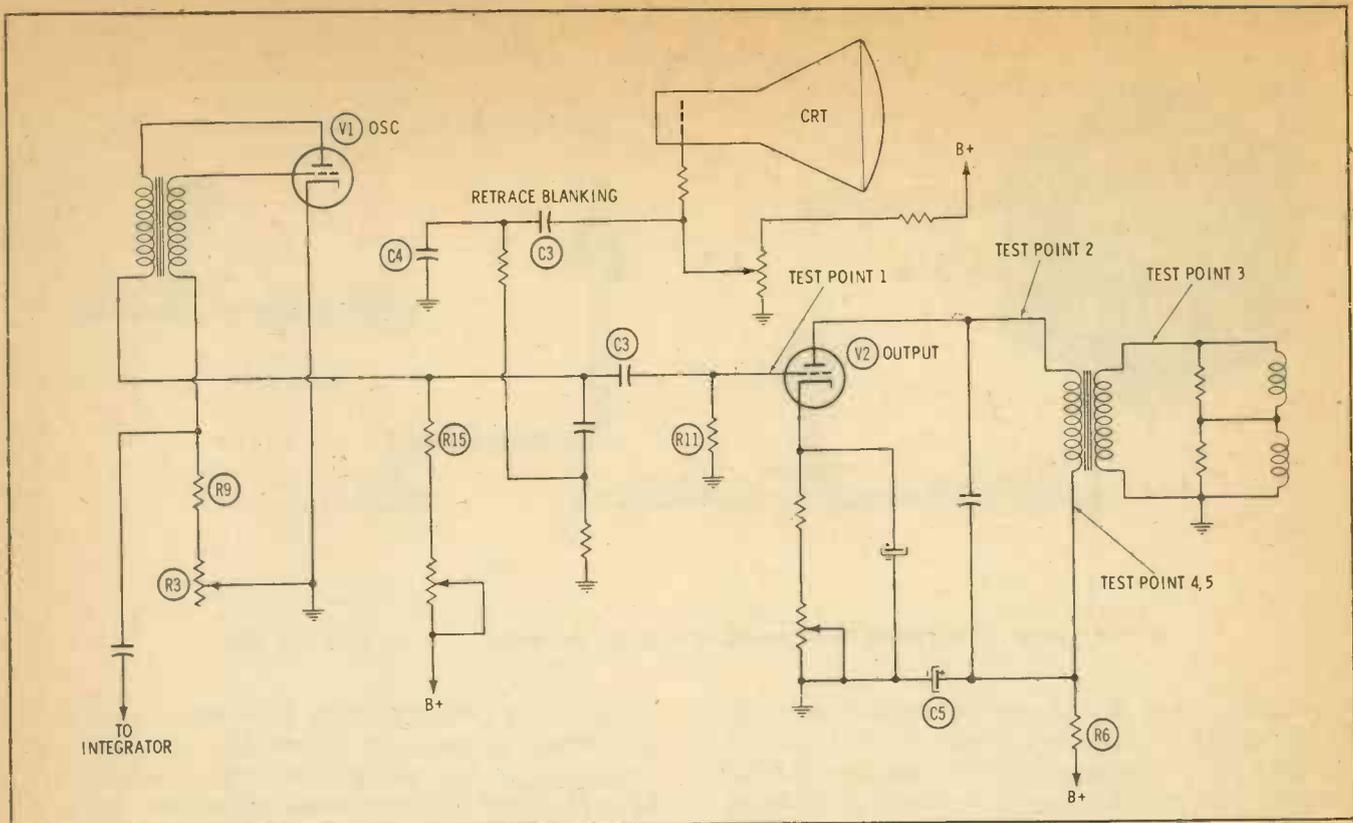

Fig. 1. Common blocking oscillator circuit used in a number of older receivers.
There are two sections in the vertical-deflection system. Sometimes, as in Fig. 1, there are two distinct stages—an oscillator and an output amplifier.
**B+ To Output Transformer.** If voltage is missing at the end of the output transformer primary opposite the plate connection, then the transformer is excluded as a cause of no deflection, and the decoupling network (R6 and C5) between the transformer primary and B+ should be checked (Fig. 1). If voltage is present, then the transformer primary should be measured with an ohmmeter and any other parts connected